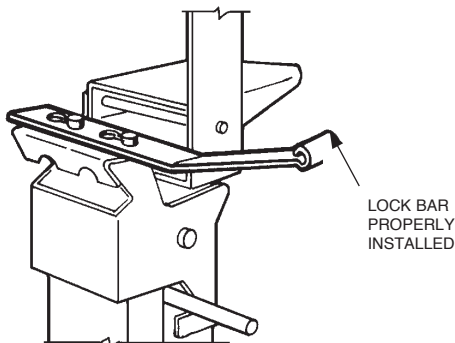
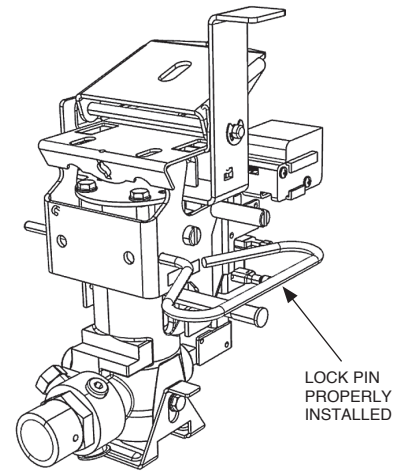

FIGURE 8-1
FIGURE 8-2
2. Insert the lock bar (Part No. 14985) or lock pin (Part No. 438031) on the cocked regulated release mechanism. See Figure 8-1 or Figure 8-2.
- a. Cock the AUTOMAN regulated release assembly and carefully insert lock bar (Part No. 14985) or lock pin (Part No. 438031). See Figure 8-1 or Figure 8-2.